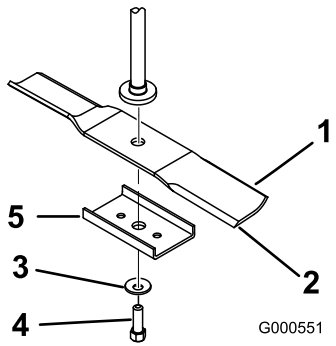

Figure 52
Hold the blade end using a rag or thickly-padded glove. Remove the blade bolt, curved washer, blade stiffener (42 inch models only), and blade from the spindle shaft (Figure 52).
- Install the blade onto the spindle shaft (Figure 52).
- Install the blade stiffener (42 inch models only), the curved washer (cupped side toward the blade) and the blade bolt (Figure 52).